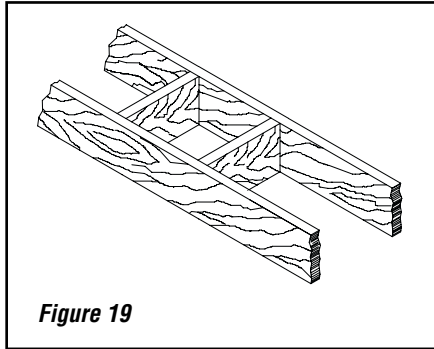

Figure 19
Cut and frame square holes in all floors and the roof to provide a 2" (50mm) clearance between the chimney and any combustible materials. Do not fill this 2" (50mm) space with any material (see **Figure 19**).
1. Cut and frame the holes in the ceiling, floor and roof where the chimney will pass (see **Figure 19**). Use a plumb-bob to line up the center of the holes. The hole sizes are indicated in **Table 3** for the floor and ceiling holes and in **Table 4 (Page 17)** for the roof holes.